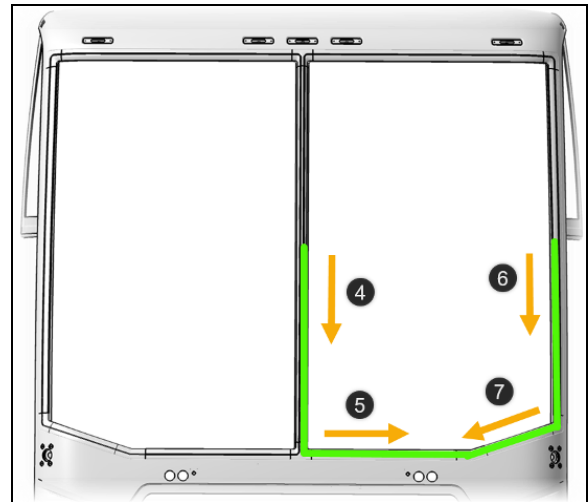

FIGURE 71
4. Carry on with the insertion of the strip into the rubber extrusion groove (Figure 71).